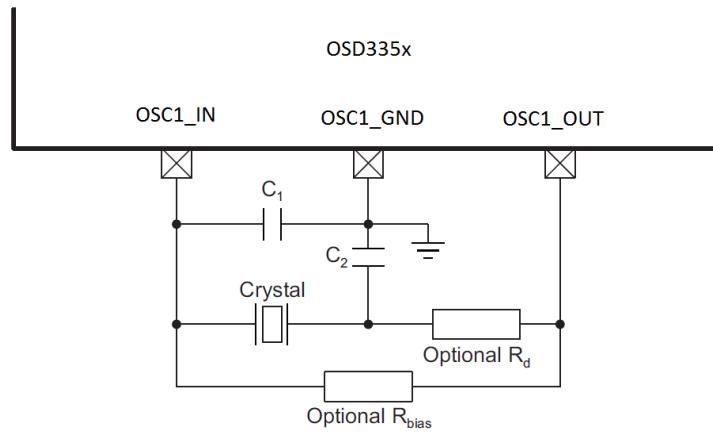

Figure 47 Crystal Oscillator circuit for OSC1
- The crystal oscillator circuit for OSC1 is shown in Figure 47 and is the same as the oscillator circuit for OSC0. For the reference design, we do not need either R_{bias} or R_d since OSC1 has an internal resistor. However, as discussed above, we have placed a footprint for R_{bias} but not for R_d to give us the flexibility to adjust the crystal performance without increasing the design cost. For recommended crystal circuit component values for OSC1, check **OSC1 Crystal Circuit Requirements** table in the **AM335x datasheet**.